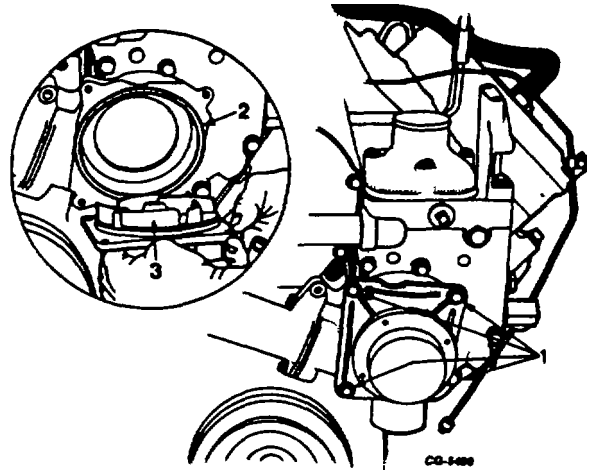

Figure 152. Removal of Water Pump Assembly
- 9. The water pump assembly with hub can be removed at this time or on the bench after the complete water pump housing assembly has been removed. (The water pump assembly with hub is serviced as a complete assembly). To remove water pump assembly with hub, remove four bolts and remove assembly (Figure 152).